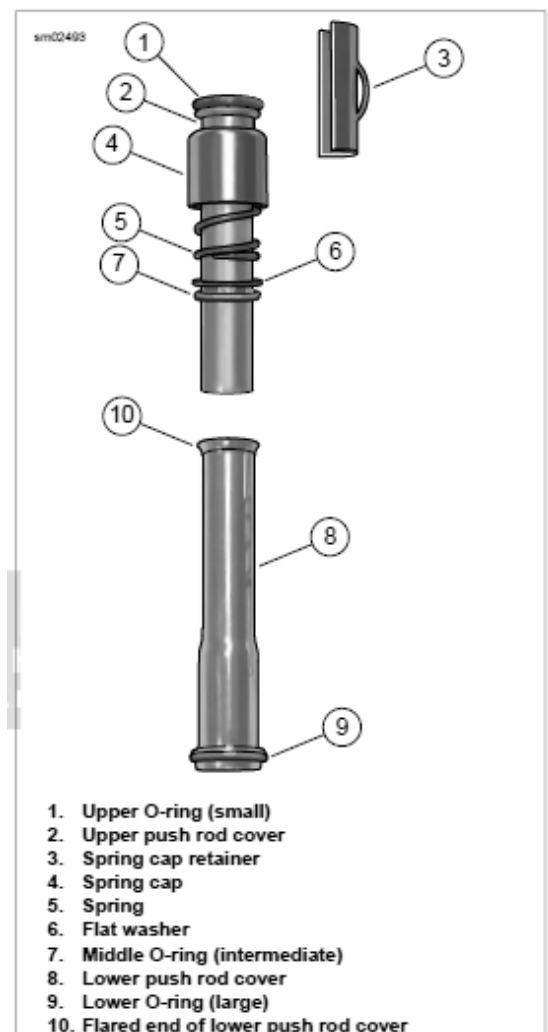

Figure 3-40. Assembled Push Rod Cover
3. Install the lifter cover (1) and new gasket (2). Install four socket head screws. Tighten the lifter cover screws to 90 in-lbs in a crosswise pattern.
4. See figure 3-40
5. Slide the spring cap (4), spring (5), flat washer (6) and intermediate size O-ring (7) onto the body of the upper push rod cover. Move parts up body until spring cap (4) contacts upper O-ring seat.
6. Fit the straight end of the upper push rod cover into the flared end of the lower push rod cover (8).
7. Install new large O-ring (9) on seat at bottom of lower push rod cover.